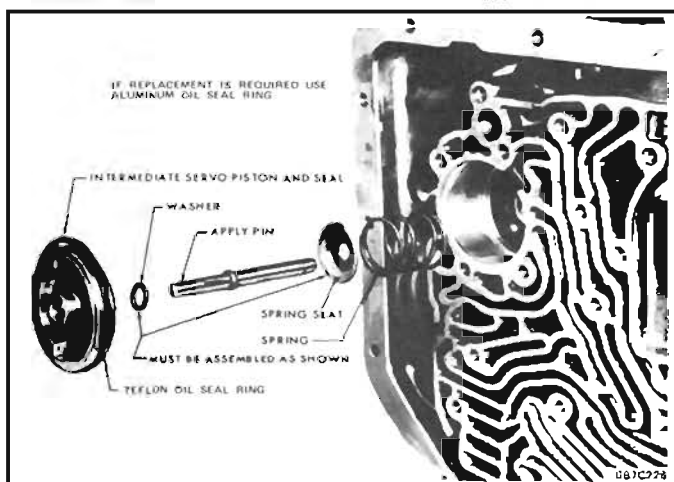

Figure 107 Intermediate Servo Assembly
2. Install intermediate servo piston, apply pin, spring seat. See Figure 107.